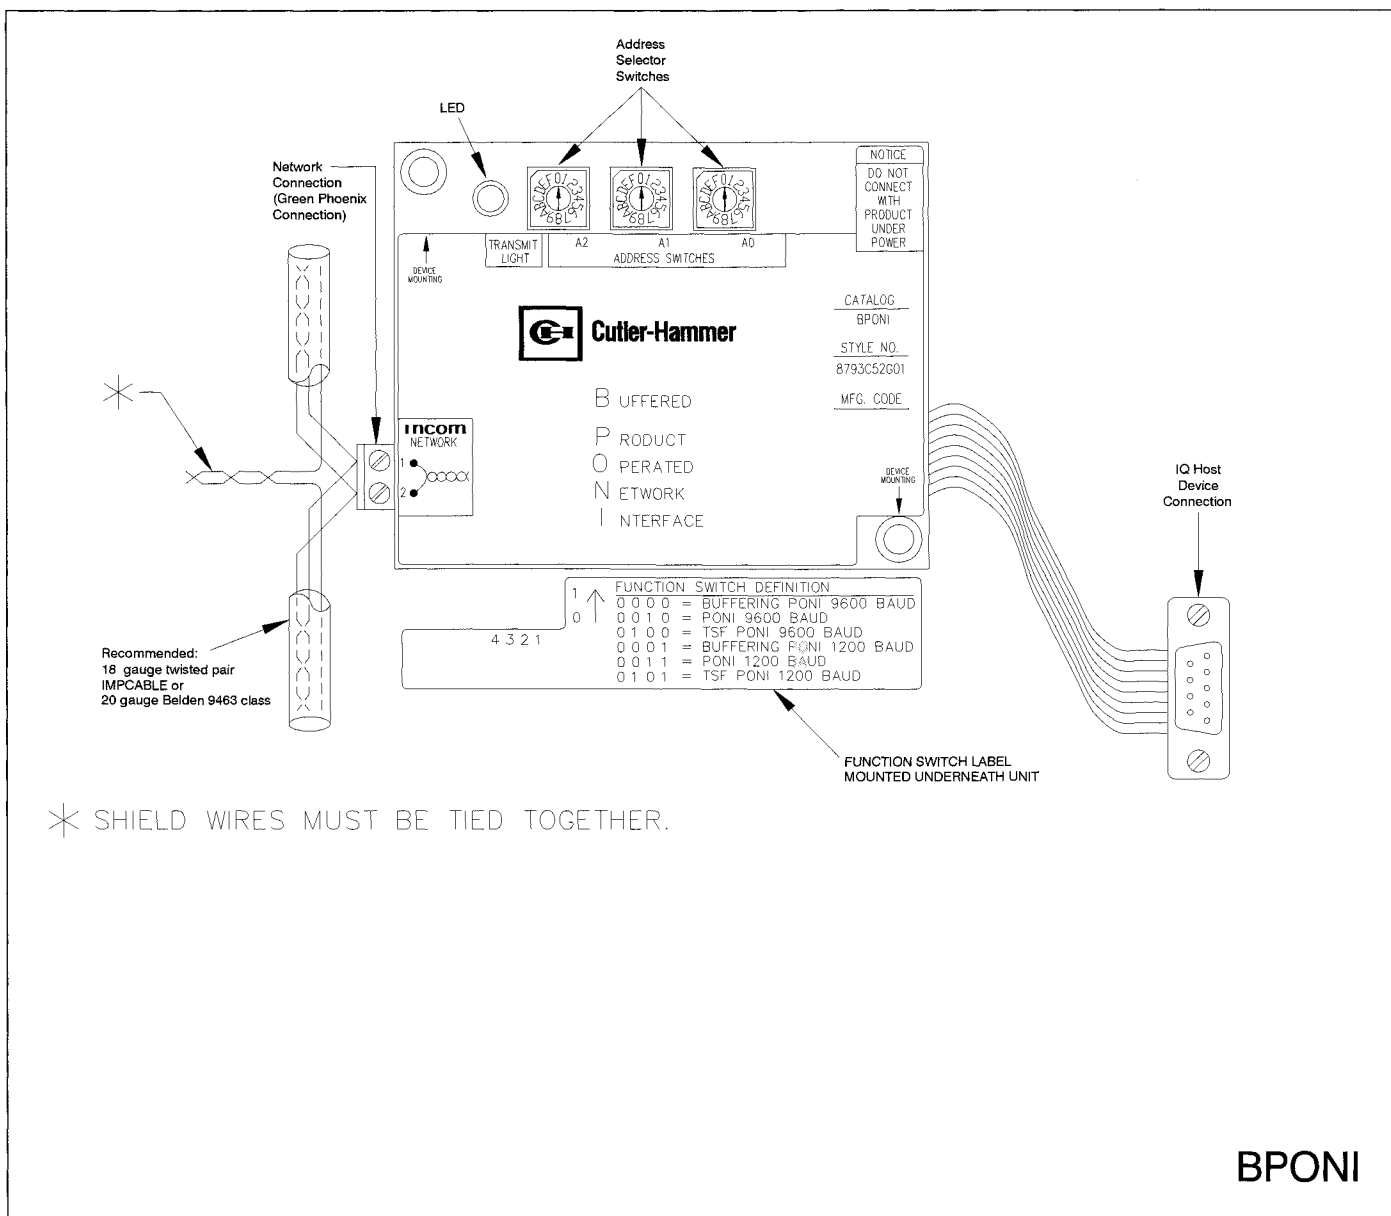

Fig. 2.4 BPONI Communications Options
2.1.3.2 Communications Option — The Product Operated Network Interface (BPONI) is a small printed circuit communications device that is mounted onto the back of the IQ-1000 II and connects the IQ-1000 II to the Cutler-Hammer PowerNet network. The BPONI is a separately purchased option (see Figure 2.4).